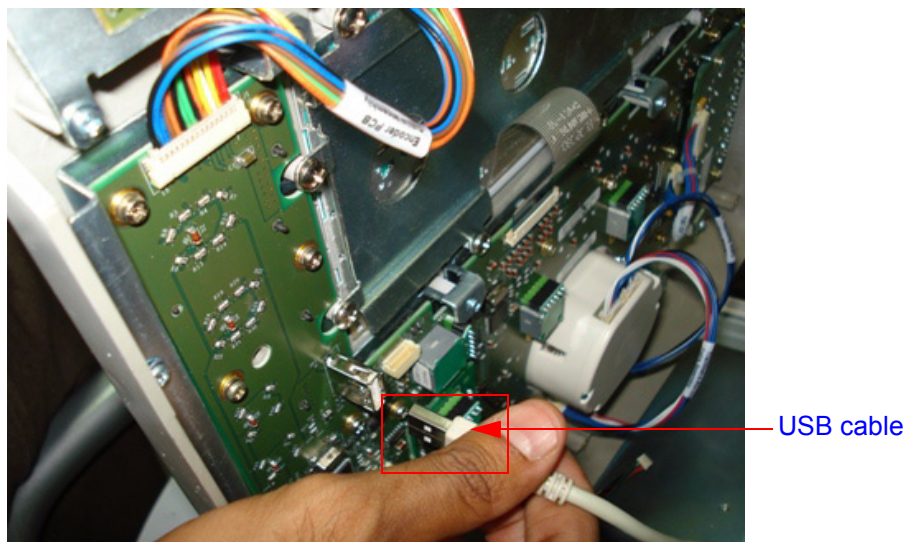

Figure 8-11 Keyboard cable location
- 3) Remove USB cable from keyboard PCB Assembly of system. Refer Figure 8-11 on page 8-13